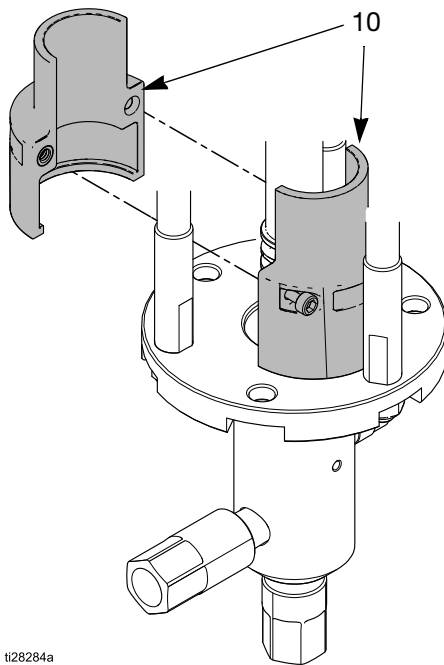

FIG. 3 Remove dust cover
2. Remove the dust cover (10) by loosening the two screws. See FIG. 3.